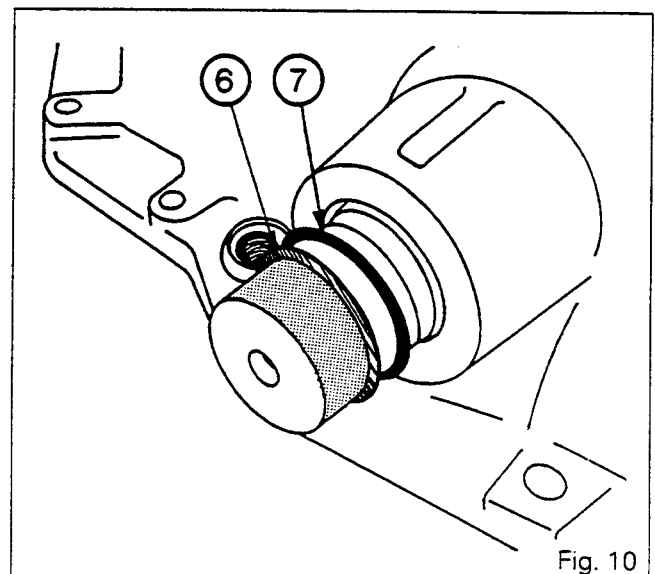

Fig. 10
37. Position the O-rings (7) and the nylon rings (6).
- Note:** Protect the splines of the shaft. Lubricate the O-rings before mounting (Fig. 10).
38. Grease the splines of the shaft (4) (Anti-Seize Grease or equivalent).
39. Fit the lift arm (5) (sensor side), the washer (1), the retainer (3) and the screw (2).